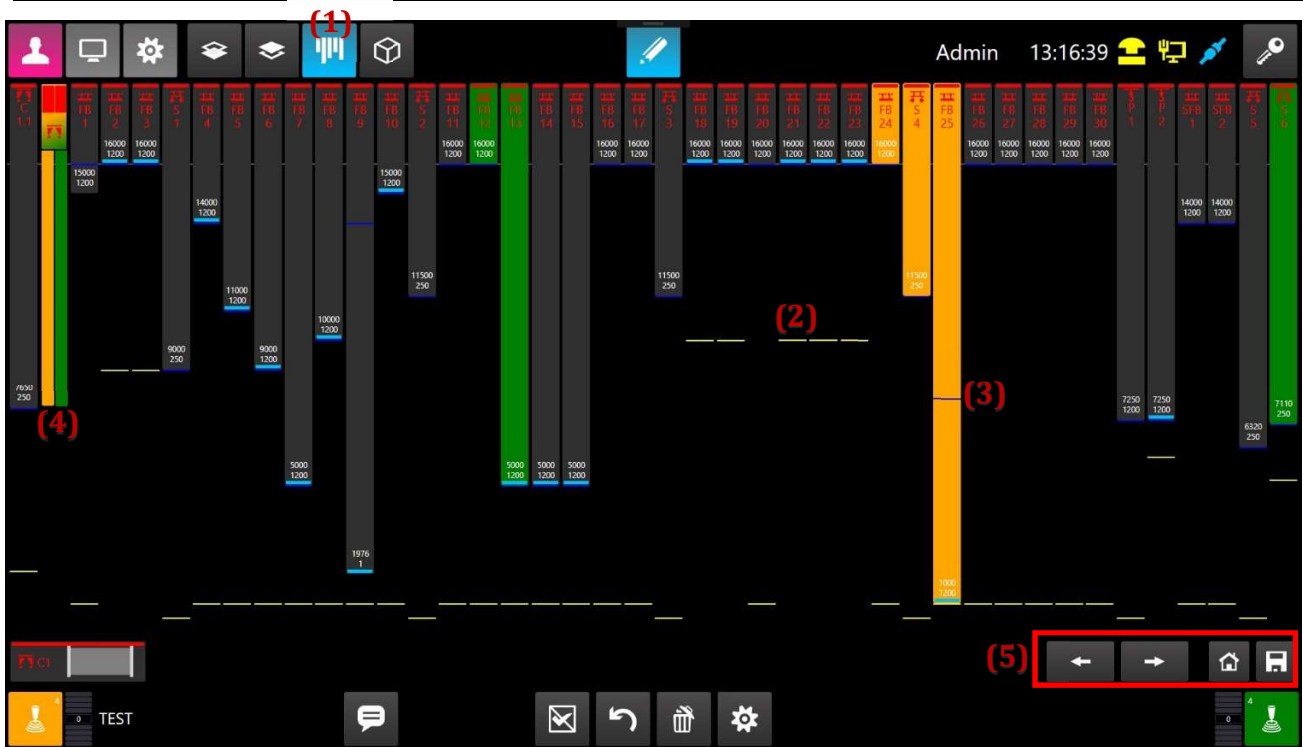
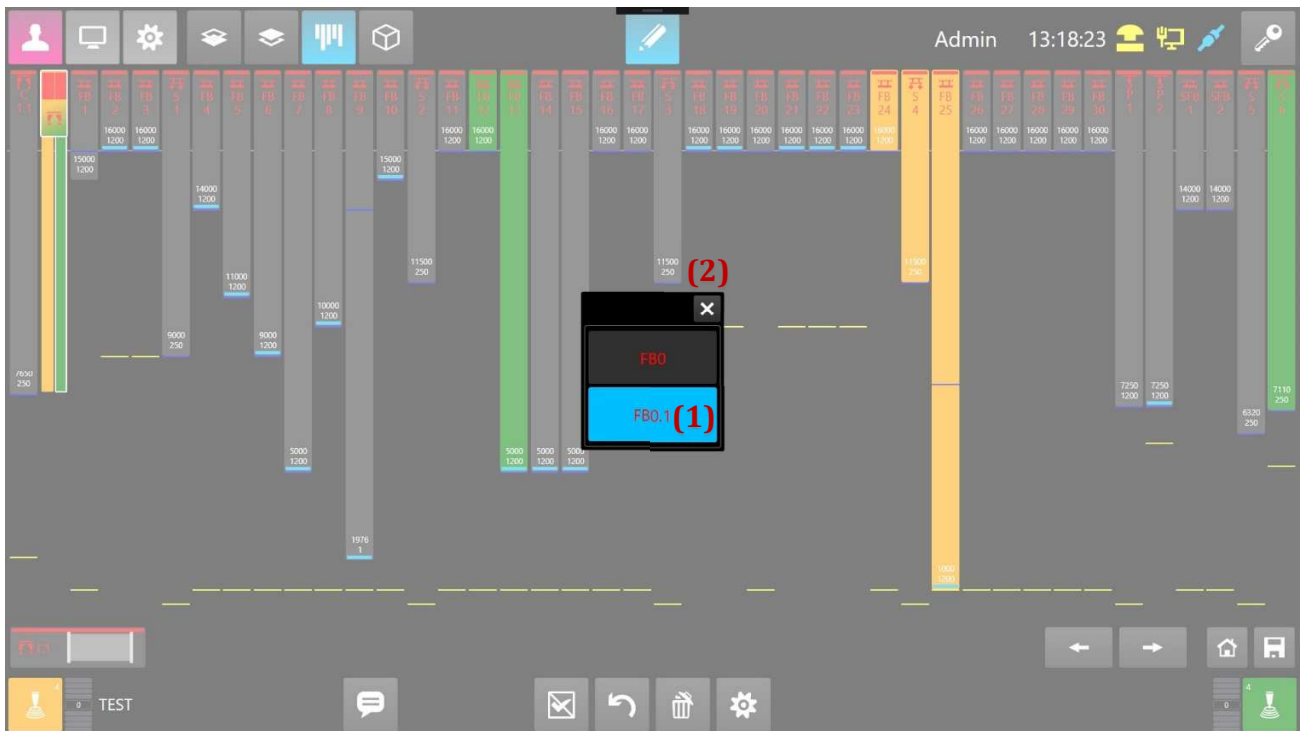

FIG. 21: 2D MODE
FIG. 22: SELECTION OF THE COMPONENT DEVICE
When joystick is deflected up or down, the device moves towards its upper or lower limit. The driving speed is dependent on joystick deflection and is variable continuously. The number (see Fig. 21 on the right) indicates the driving speed in percents and serves as a supplemental information. To end the travel, just release the joystick and the device will stop smoothly.
2D mode is a different way of manual mode display overview. We can switch to the 2D mode by clicking the button (1), see Fig. 21. This mode is useful for upper sphere devices. User gets a side view of the actual placement of the devices and its positions. In this mode it is also possible to view the diagnostics of the devices, edit its parameters and assign them to the joysticks (or remove them) the same way as in manual mode described in the previous chapters.
The only difference is selection of the devices, that overlap in the side view. Such devices are part of the 2D mode component. Eg. Component (4) in Fig. 21 represents 2 overlapping devices. Selection of such a device can be made by clicking the dialogue button (1) in Fig. 22, which appears on the screen when you click on the component. Dialogue can be closed by clicking the cross button (2) or by clicking outside the component area.
If the relocatable point hoists are available in the system, it is possible for operator to change its visual location in the 2D view for better overview of the scene. Buttons responsible for relocation are placed in the area (5) in Fig. 21. The buttons are displayed only when the point hoist is selected, otherwise they remain hidden. Selected point hoist is relocated by the buttons with arrow marks. Button with „home“ mark is intended for loading the saved device distribution from the database. The „floppy disc“ button saves the actual distribution to the database.